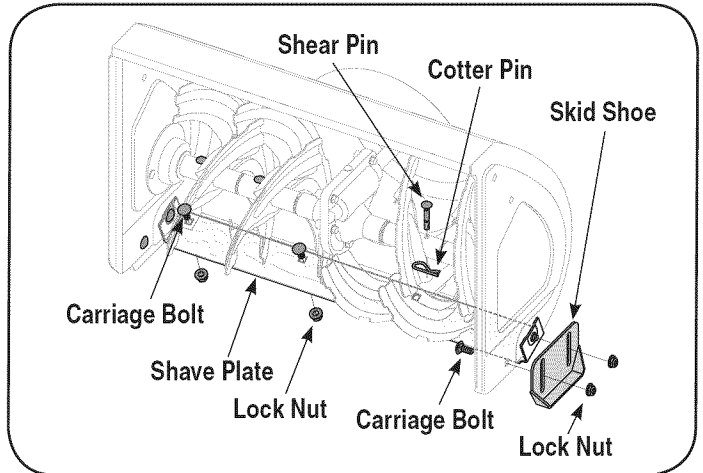

Figure 15
1. To replace, remove two carriage bolts and nuts securing each skid shoe to the auger housing. See Fig. 15.
3. To remove shave plate: Remove both skid shoes and hardware including carriage bolts and nuts which attach shave plate to the snow thrower housing. For location of shave plate, see Figure 15.
The augers are secured to the spiral shaft with four shear pins and cotter pins. If you hit a foreign object or ice jam, the snow thrower is designed so that the pins may shear. Refer to Figure 15.